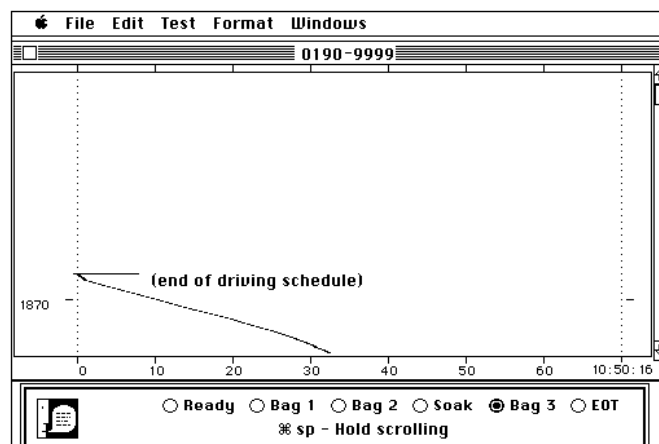

Figure 22
- 324 At the 1874-second point of the UDDS, the VDA will automatically switch off the 3rd set of sample bags. See Figure 22. The "EOT" indicator will come on and the VDA will automatically save the test data.